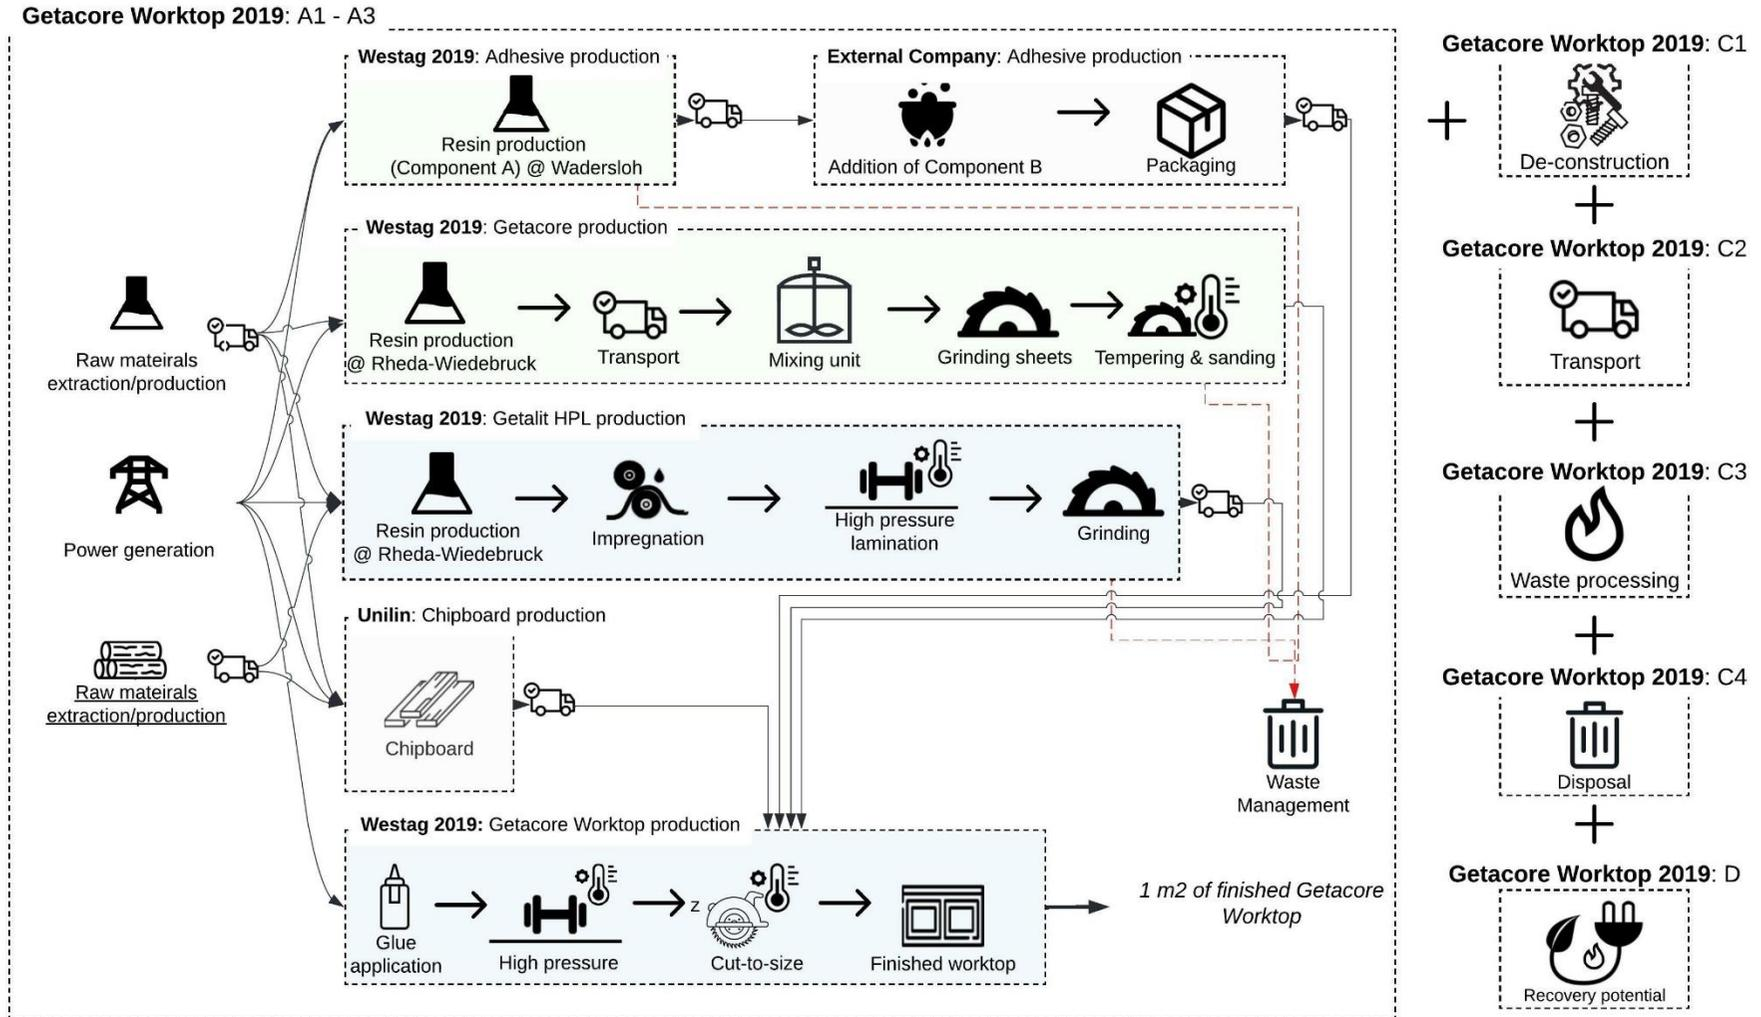

Figure 1 Getacore® worktop in a thin version system boundaries from cradle to gate with modules C1-C4 and module D
According to the standard EN 15804:2012+A2:2019 (E) and PCR 2019:14 CONSTRUCTION PRODUCTS (version 1.11), the system boundary is *cradle to gate with modules C1-C4 and module D (A1-A3 + C + D)* (see figure 1). The life cycle stages A4-A5, and B1-B7 were excluded from the LCA study.